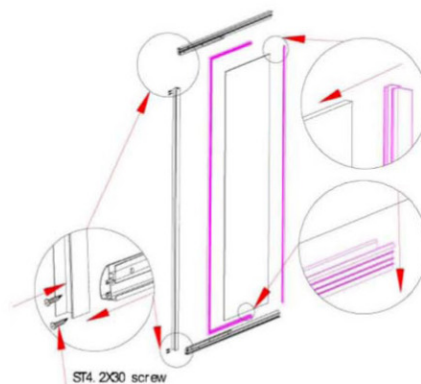

Fig 6
- Connect the fixed profile (2) to the rail profiles (11) by using the ST4.2x30 screws (5). Attach the sealing strip (3) and the sealing profile (12) to the fixed glass panel (6), as shown in figure 6.